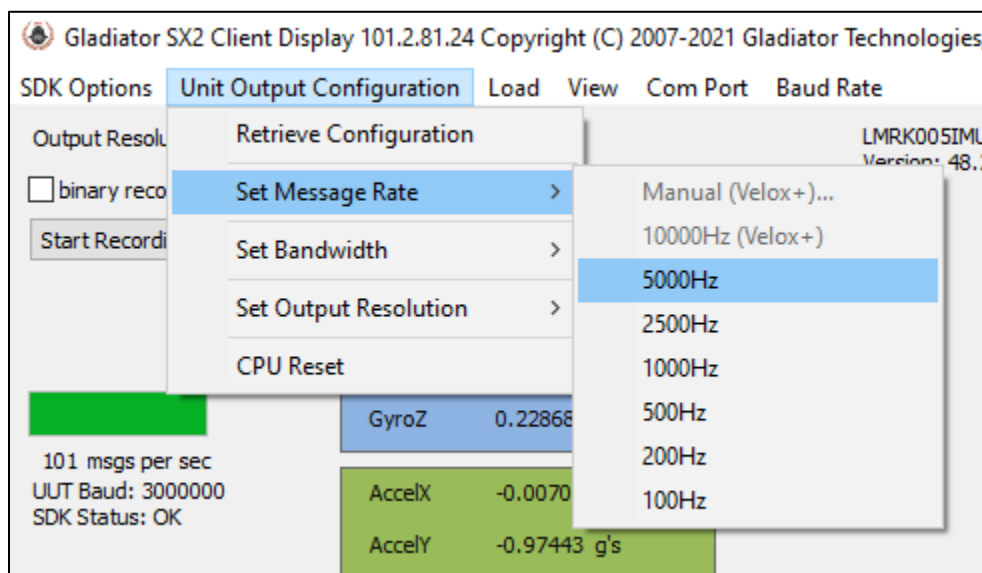

Figure 14. Selecting message rate options for standard devices
*Contained in the Software Development Kit is a complete RS-422/485 to USB Converter box, which may include a Self-Test button. The USB Converter box uses USB power to operate (+5 V standard). Some USB Converter boxes may have yellow (external sync input) and gray (signal ground) banana jacks for applying an external sync signal (Fig. 14). See section*